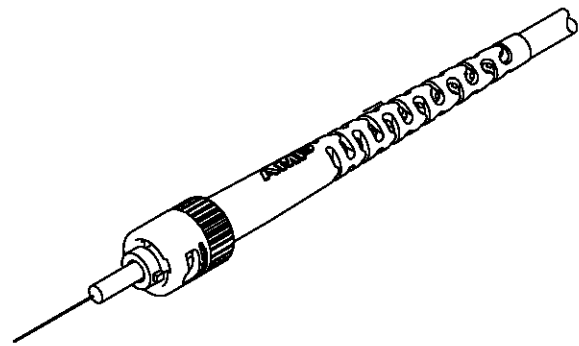

Figure 12
6. Slide the cable boot over the crimp sleeve to complete the connector assembly. See Figure 12.